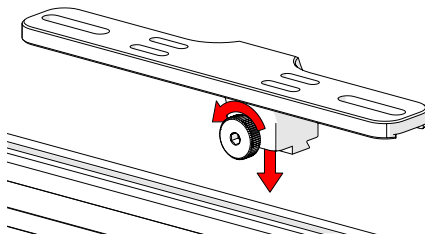

Fig. 157 - Loosen knob and mount to dovetail groove
1. Loosen the knob and align with dovetail groove (*Fig. 157*).